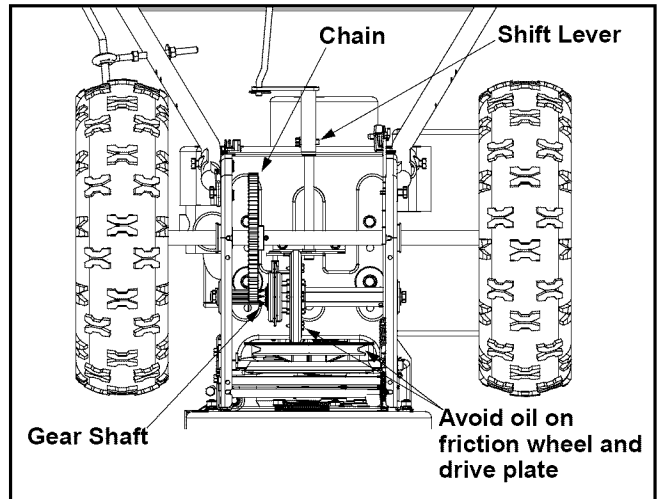

Figure 24
- Remove rear cover. Oil any chains, sprockets, gears, bearings, shafts, and shifting mechanism at least once a season. Use engine oil or a spray lubricant. Avoid getting oil on rubber friction wheel and aluminum drive plate. See Figure 24.